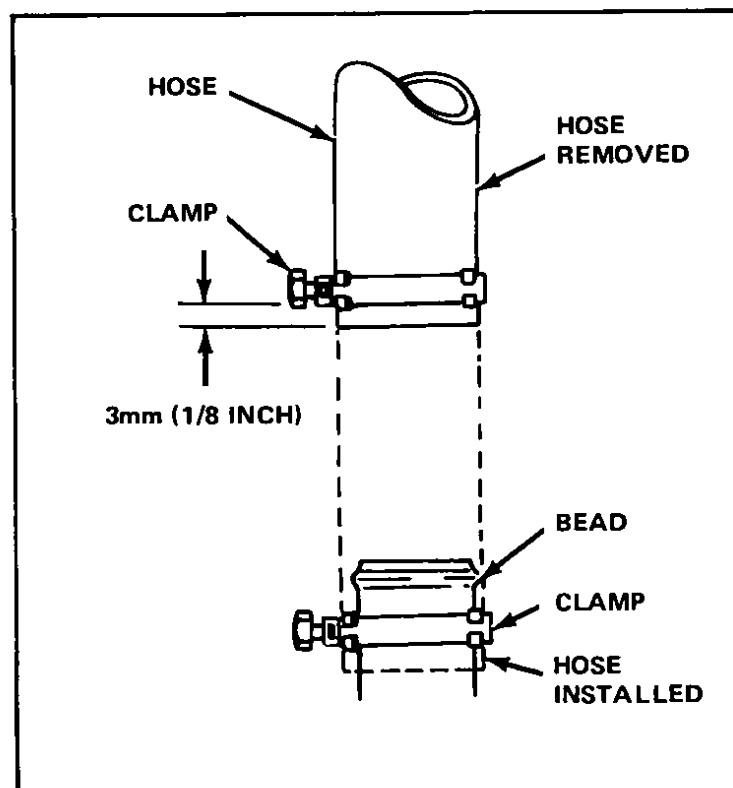

Fig 13 Positioning clamp on hose
- 4 Position the new clamps on the new hose at least 3 mm (1/8 inch) from each end of the hose and slip the hose on the connector, Fig 13